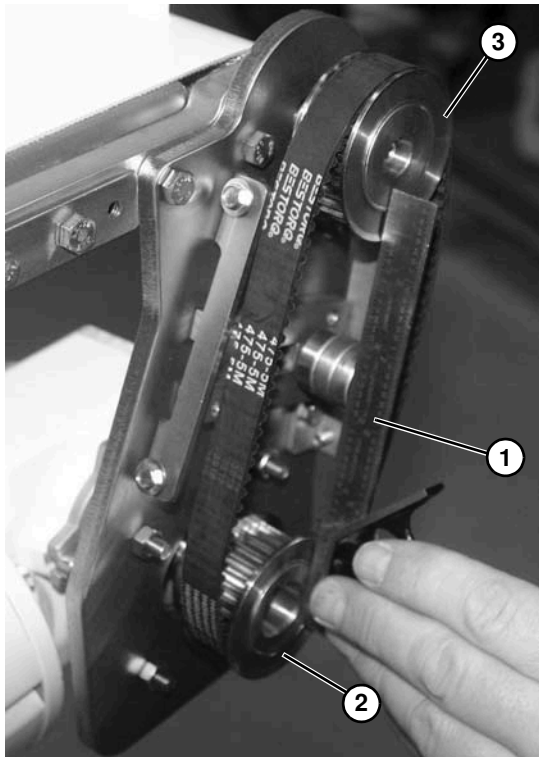

Figure 44
Using a straight edge (**Figure 44, item 1**), make sure drive sprocket (**Figure 44, item 2**) aligns with driven sprocket (**Figure 44, item 3**). Tighten drive and driven sprocket set screws.